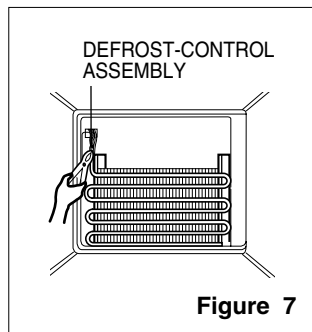

Figure 7
2. Separate the connector with Defrost Control assembly and replace the Defrost Control assembly after cutting the Tie Wrap. (Figure 7)